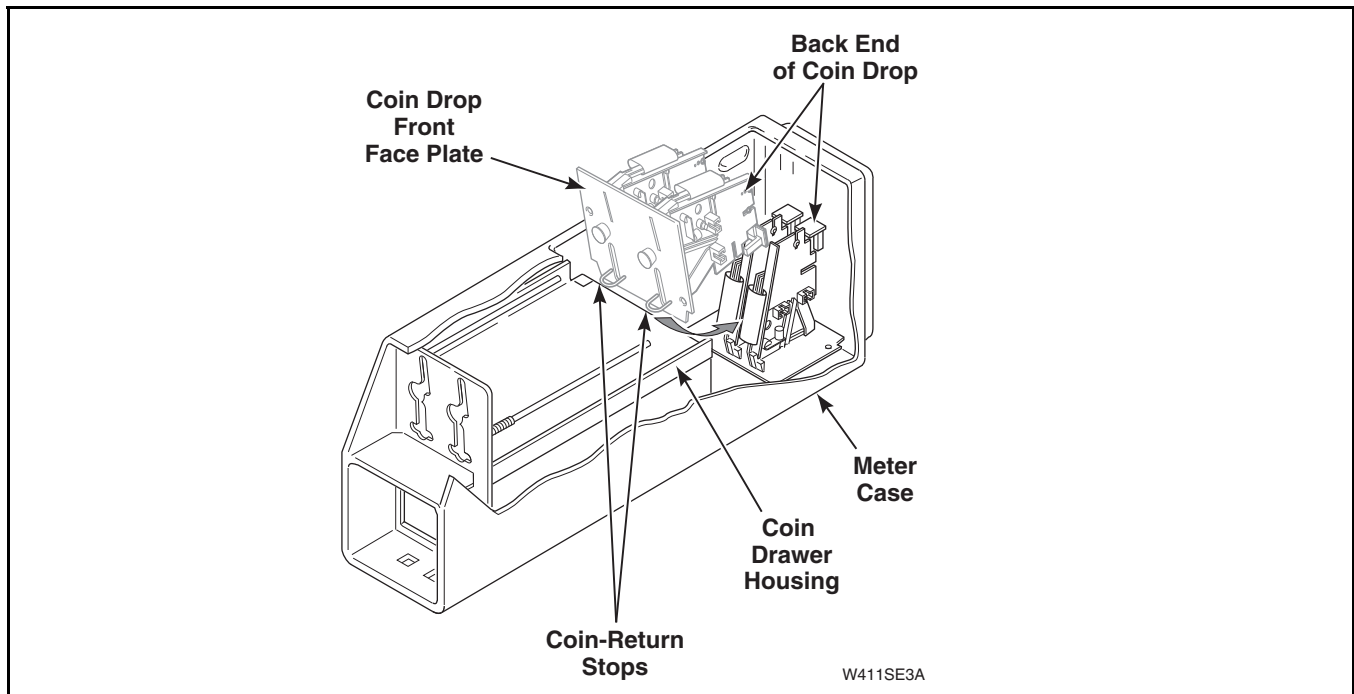

Figure 53
(9) Lift up back end of coin drop until the two coin-return stops slide down past the coin drawer housing, as shown in *Figure 53*.
(10) While holding back end of drop, allow drop's front face plate to rest on bottom of meter case. Refer to *Figure 53*.